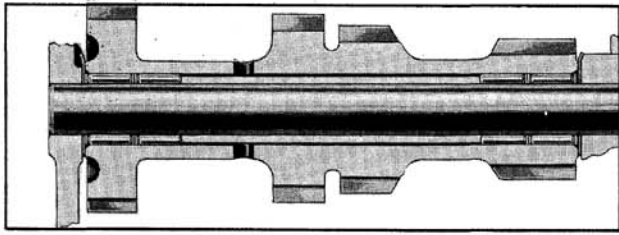

Fig. 7-72 Cross-Section of Countergear Assembly
2. Using heavy grease to retain the rollers, install 28 rollers in either end of the countergears, two .070" spacers, 28 more rollers, then one .070" spacer. Install in the other end of the countergear, 28 rollers, two .070" spacers, 28 more rollers and another .070" spacer. (Fig. 7-72)